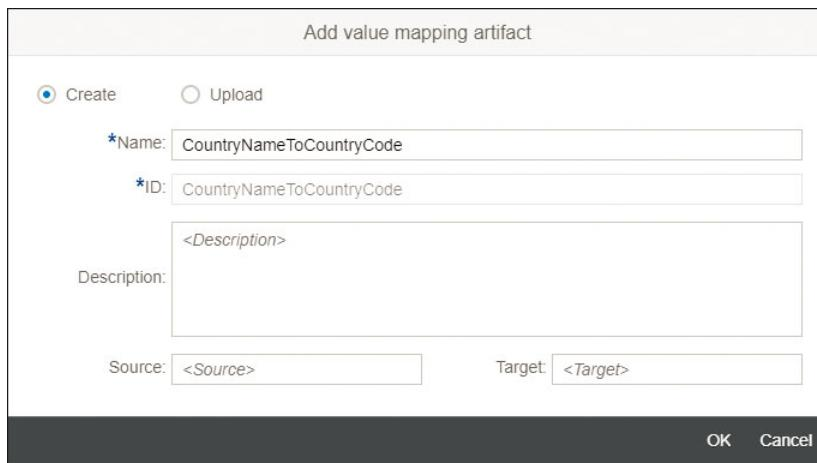

Figure 4.86 Naming the Value Mapping Artifact
3. Provide a name for the value mapping, and click **Ok** (Figure 4.86).